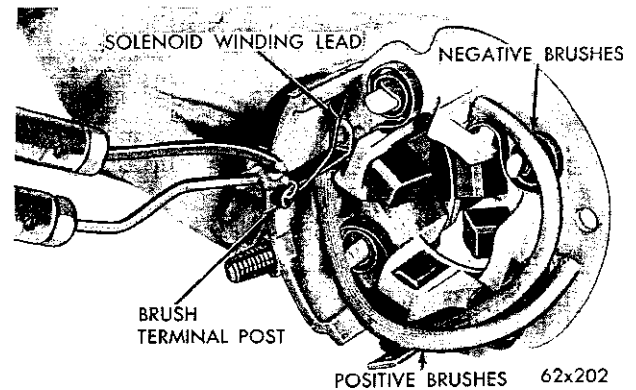

Fig. 40—Soldering Solenoid Winding Lead
(17) Solder the solenoid lead wire to the brush terminal post (Fig. 40). Wrap the wire securely